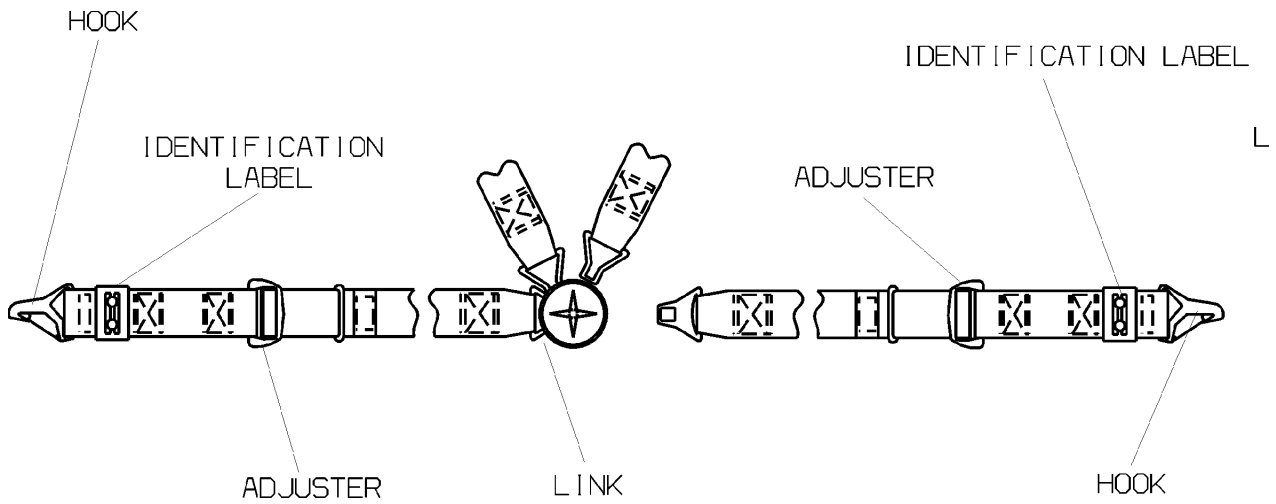

Fig. 206 - Pilot and Copilot Shoulder Belts
11. Pilot/Copilot Shoulder Belts - Adjustment (Ref. to Fig. 206)